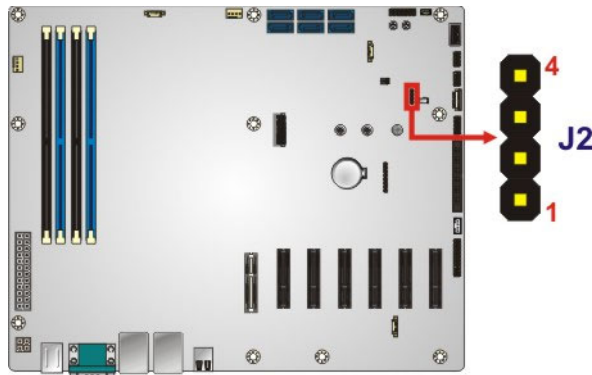

Figure 3-6: BMC Debug Connector Location
- CN Location:** See **Figure 3-6**